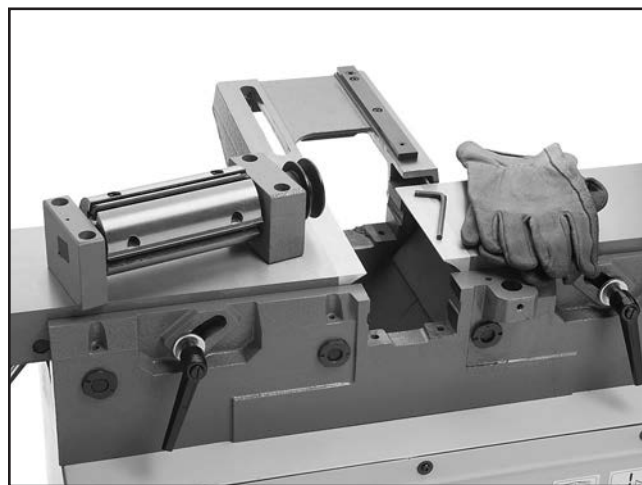

Figure 4. Example of cutterhead removed.
10. Carefully remove bearing blocks and cutterhead from casting (see **Figure 4**).